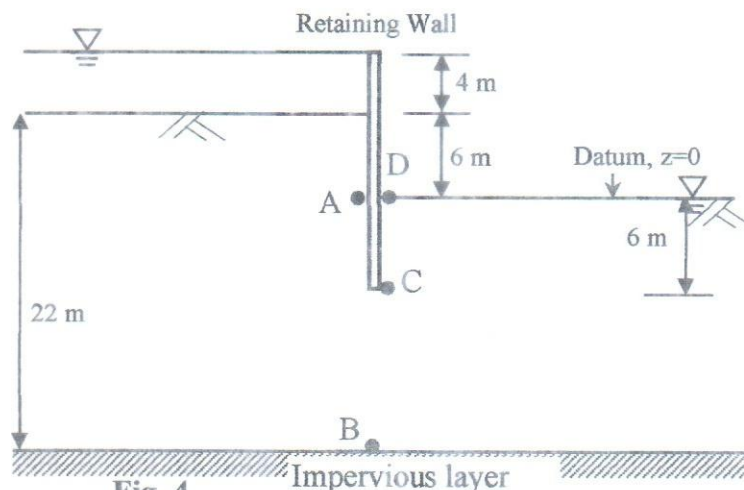

Fig. 4
5. Answer the following questions related to Fig.4.